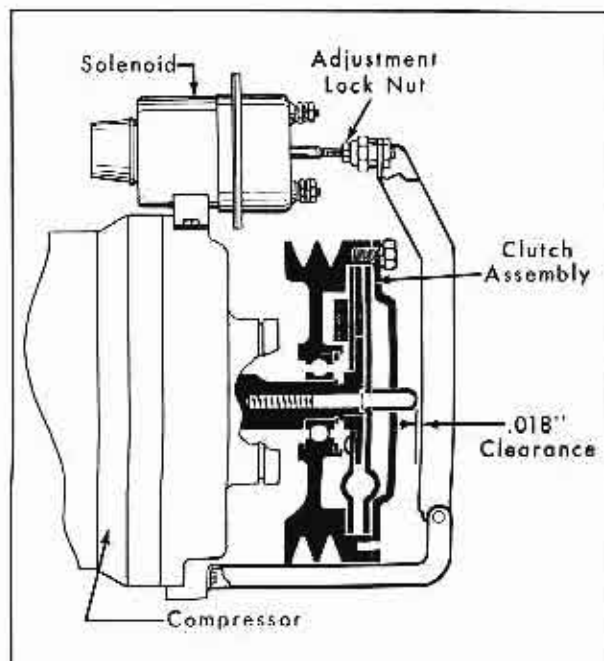

Fig. 16A-23 Clutch Adjustment
5. Remove nitralloy ring from shaft using Tool No. J-5425. Fig. 16A-25.